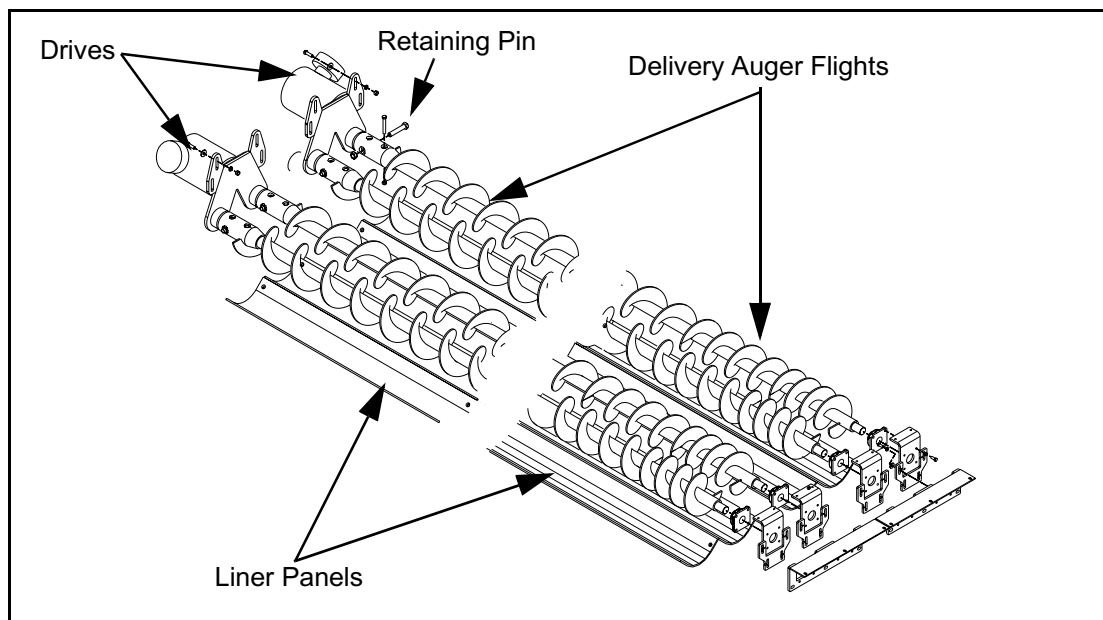

Figure 6 - 28 Replacing Delivery Auger Liners and Flights
- 3) To replace liners, remove bolts retaining liner panels and slide liners out the back of the paver. New liners can be installed in reverse order. (Figure 6 - 28)